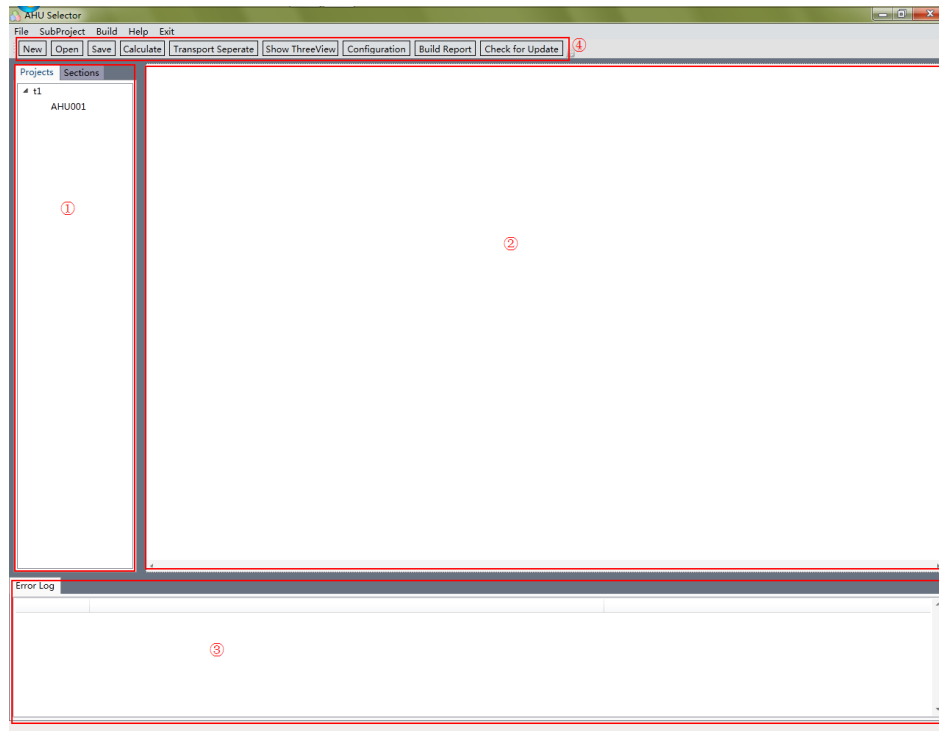

Figure 2 Homepage
- ① The project contains all sub-projects. By single clicking, they can be switched over.
- ② This area is used to display all that have been selected AHU sections.
- ③ Error information will be displayed in this area, through which the user can get known their mistakes.
- ④ It is the presto toolbar, including tools of “Create”, “Open”, “Save”, “Calculate”, “Divide”, “Display”, “Config”, “Report”, “Update”.
“④” in Figure 2 is the presto toolbar. Its enlarged diagram is as shown below.